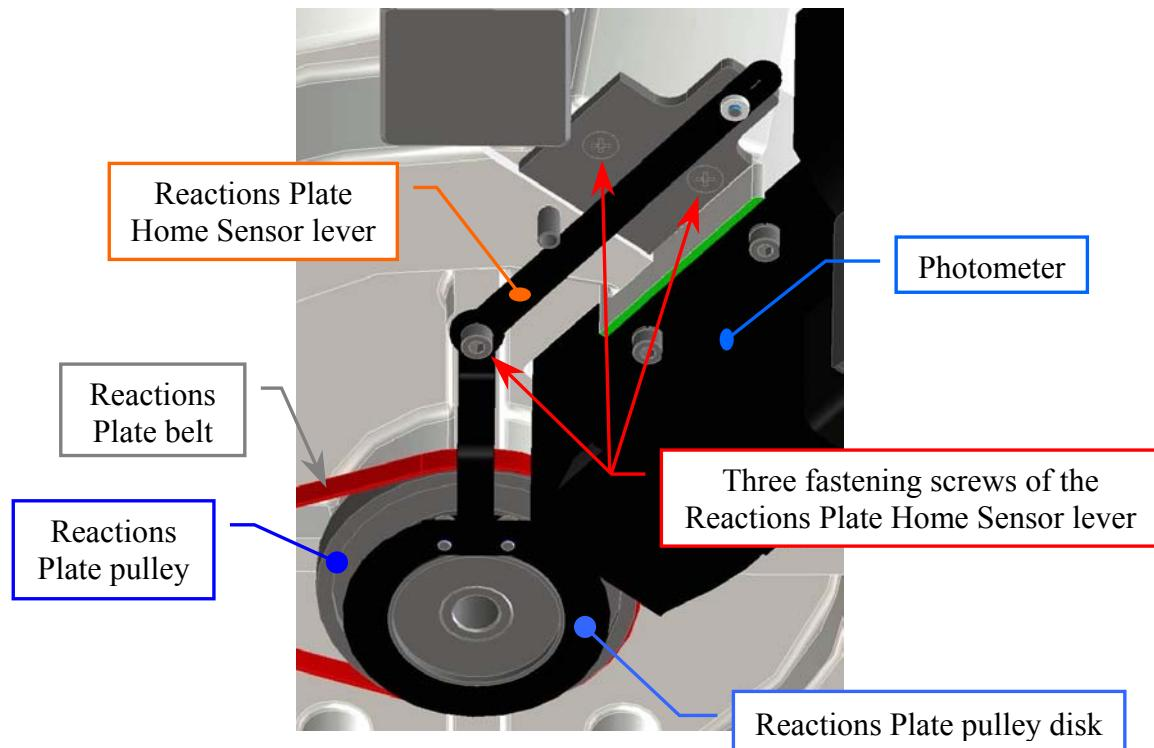

Fig. 114 – Reactions Plate Home Sensor lever
4. Unscrew the three fastening screws of the Reactions Plate Home Sensor lever (**Fig. 114**) and take out the lever from its place.
7. Position the lever on its housing - as showed in **Fig. 114** - in order to obtain that the plate pulley disk is centered with respect to the internal sides of the home sensor.
8. Screw the three fastening screws of the Reactions Plate Home Sensor lever (**Fig. 114**).
3. Unscrew the three fastening screws of the Reactions Plate Home Sensor lever (**Fig. 114**) and take out the lever from its place.
9. Position the lever on its housing - as showed in **Fig. 114** - in order to obtain that the plate pulley disk is centered with respect to the internal sides of the home sensor.
10. Screw the three fastening screws of the Reactions Plate Home Sensor lever (**Fig. 114**).